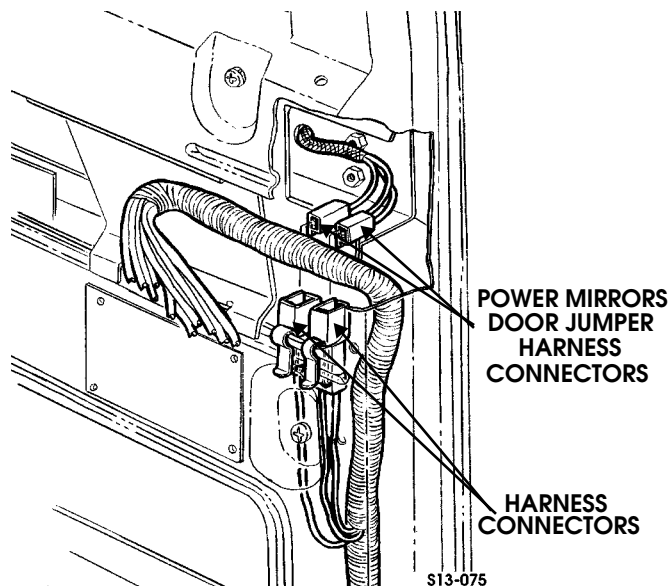

Figure 12-126: Power Mirrors Door Jumper Harness
10. Disconnect two harness connectors from power mirrors door jumper harness connectors (Figure 12-126).
1. Route harness through harness mounting bracket, mounting bracket bushing, and door bushing (Figure 12-126).